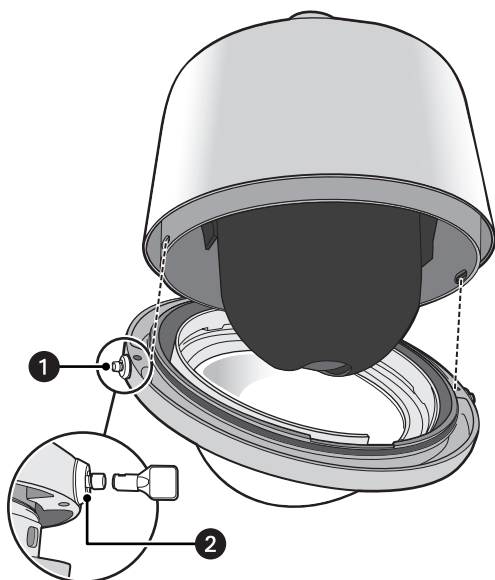

Figure 18. Installing the Heavy-Duty Pendant Lower Dome
3. Align the barrel locks in the lower dome with the holes located on each side of the back box (refer to Figure 18 on page 23).